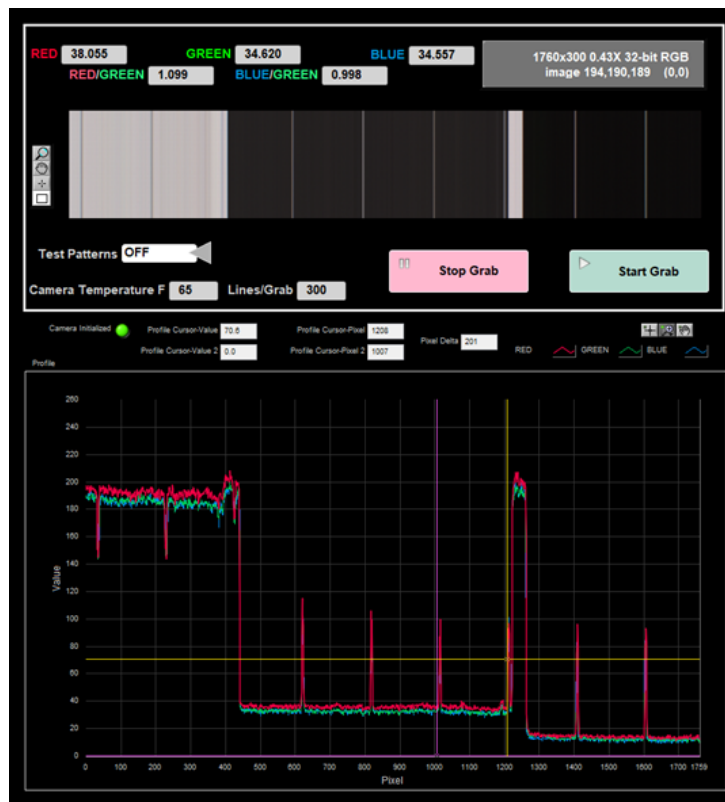

Figure 11. Example of the QP-101 marks and the profile graph.
2. On the screen you will see the cm lines and vertical peaks on the **Profile** graph (*Figure 11*).